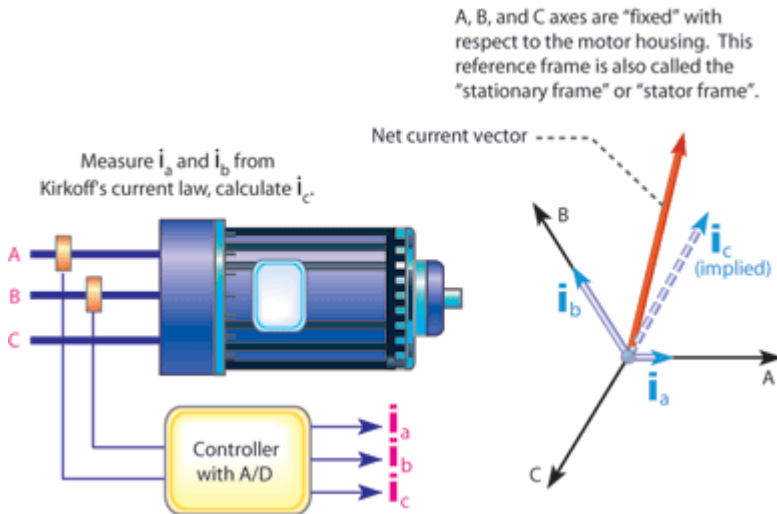

Figure 1: Step 1: Measure the currents already flowing in the motor
STEP 1: Measure the currents already flowing in the motor windings. As seen in Figure 1, it's only necessary to measure two of the three motor phase currents, since the algebraic sum of the currents flowing in two windings must equal the current flowing out of the third winding (unless of course there's another path for current flow, such as a winding short to the motor frame). The current flowing through each stator winding creates a magnetic field oriented along an axis at a specific angle. In a three-phase machine, the windings are spatially configured around the circumference of the machine so that the magnetic axes for each phase are spatially separated from each other by 120° . These magnetic fields add together vectorally as shown in Figure 1 to create a net stator magnetic vector of a specific magnitude and angle, which is a function of the current in each coil.